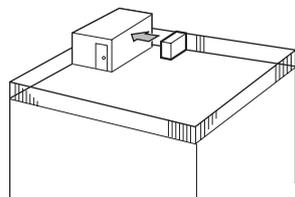

Fig. 1
- (1) Face the air outlet towards the nearest available wall about 50 cm away from the wall. (Fig. 1)
### • Front view (Fig. 1)